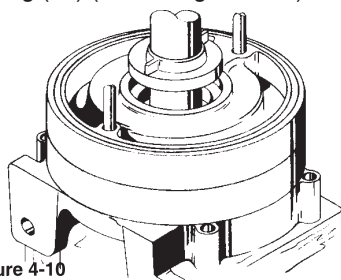

Figure 4-10
12. Slide an interstage bushing onto the shaft. The smooth wearing face should be installed against the ring (#9).(refer to figure 4-10)